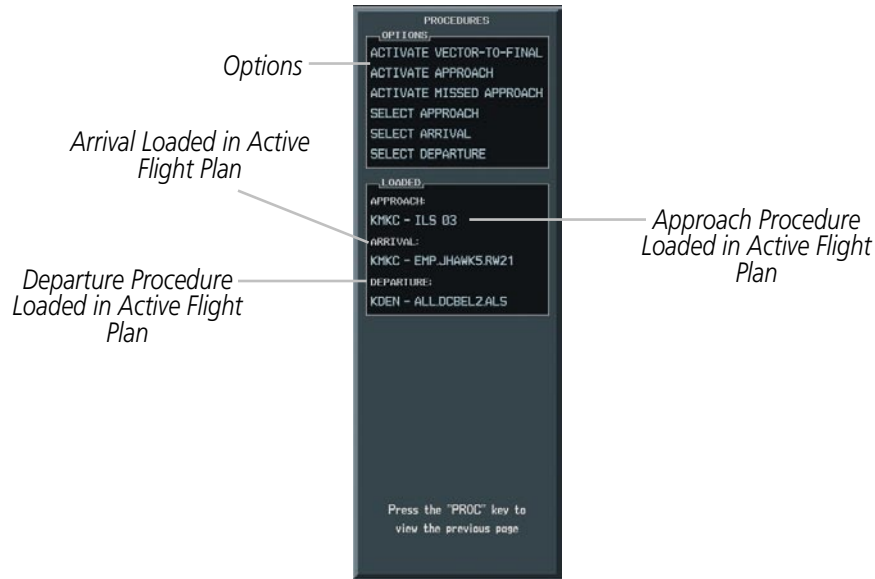

Figure 5-86 Procedures Window
- 1) Press the **PROC** Key. The Procedures Window is displayed (Figure 5-86).